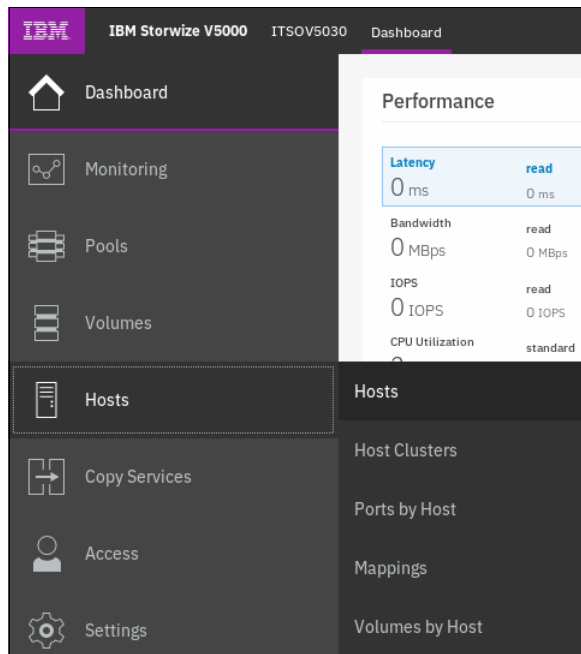

Figure 8-14 Hosts
1. From the main navigation window, select **Hosts**, as shown in Figure 8-14.